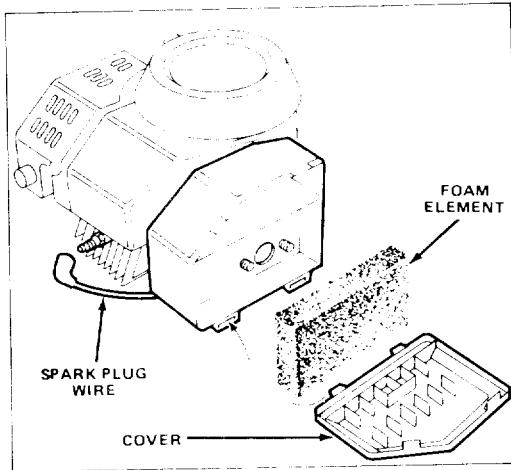

Figure 3
1. Stop engine. Pull wire off spark plug (Fig. 3).
3. Lift tabs at top of air cleaner cover and pivot cover down. Clean cover thoroughly (Fig. 3).
4. If outside of foam element is dirty, remove it from air cleaner body (Fig. 3). Clean thoroughly.